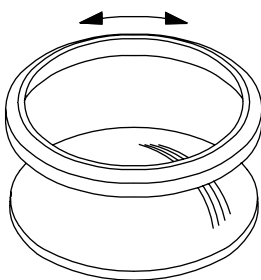

Fig.6-14.2 Grinding-in
3. Grind into the new seat against the ball segment. Add to valve grinding paste and rub the seat and ball segment against each other until a continuous matte finish obtained around sealing surfaces (→ Fig.6-14.2).
Grind the ball segment into the new seat. Use valve grinding paste and rub the seat and ball segment against each other until the surfaces of the sealing area are evenly matt (→ Fig.6-14.2).